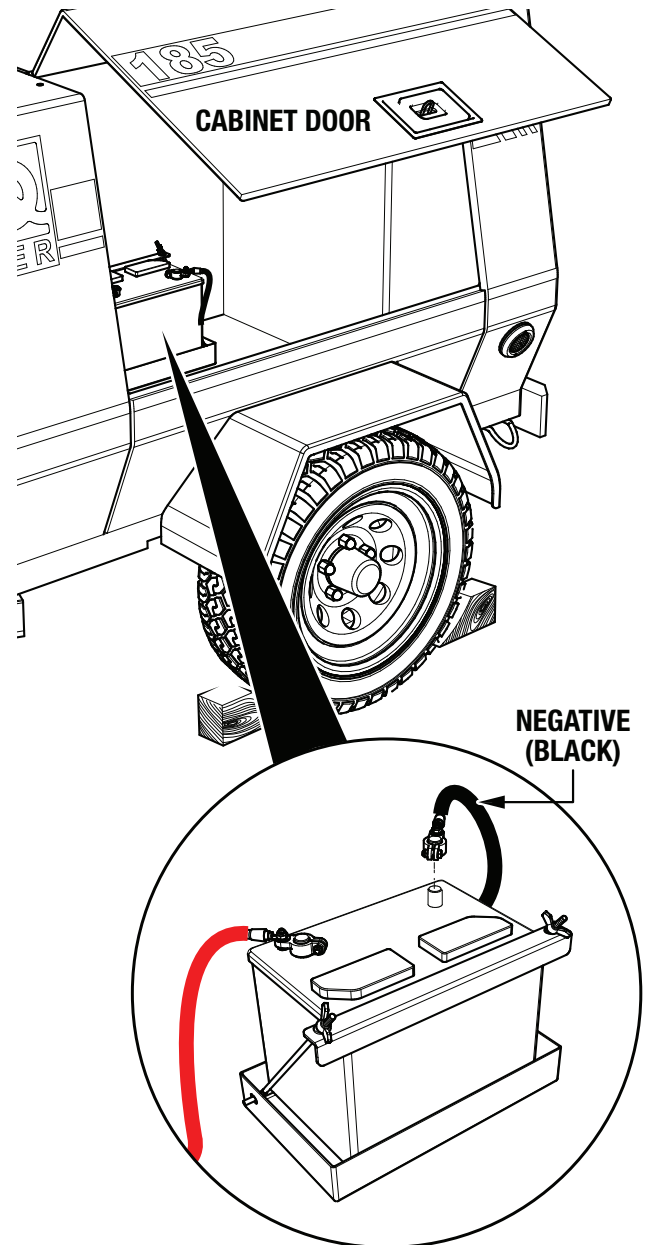

Figure 2. Battery Cable Disconnection
1. Open the battery-side cabinet door to access the battery (Figure 2).
2. Disconnect the negative cable (**BLACK**) from the negative (-) terminal on the battery. See Figure 2.